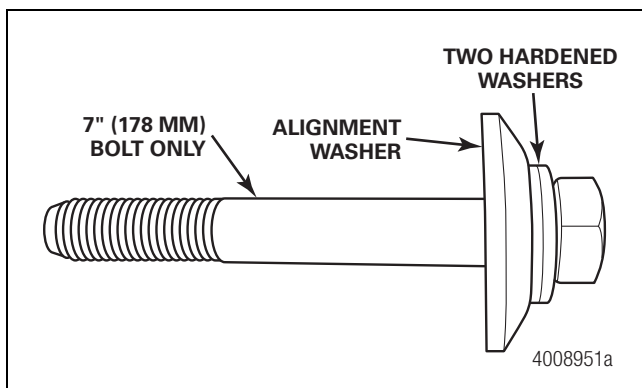

Figure 1
- If the repaired position is the roadside, use a seven-inch (178 mm) bolt at this position only and install two hardened washers against the head of the supplied bolt. Use one hardened washer under the six-inch (152 mm) bolt for the opposite side. If the repair position is at the curbside, use only the six-inch (152 mm) supplied bolt and install only one hardened washer under the head of the bolt on each side. Figure 1.